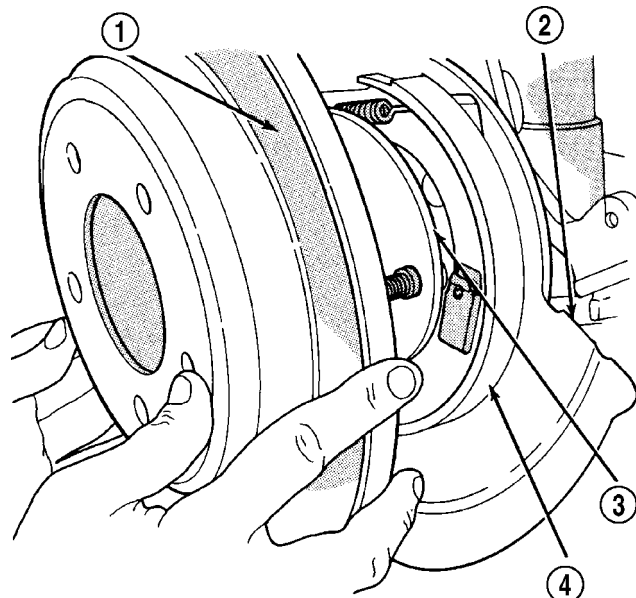
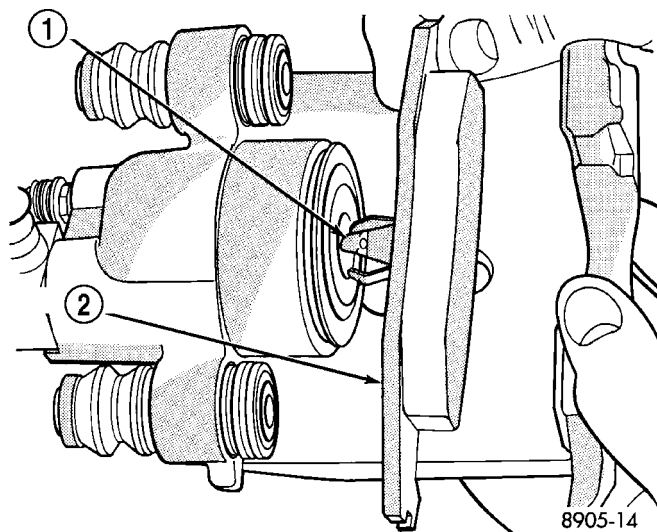

Fig. 21 Removing / Installing Rear Rotor
Fig. 23 Removing / Installing Inboard Brake Shoe
(6) Remove the rear rotor from the hub by pulling it straight off the wheel mounting studs (Fig. 21).
(8) Pull inboard brake shoe away from piston, until the retaining clip is free from the cavity in the piston (Fig. 23).
- (1) Completely retract caliper piston back into piston bore of caliper assembly.
- (2) Lubricate both adapter abutments with a liberal amount of Mopar® Multipurpose Lubricant, or equivalent.
- (3) Install the rear rotor on the hub, making sure it is squarely seated on the face of the hub (Fig. 21).
- (4) Remove the protective paper from the noise suppression gasket on both the inner and outer brake shoe assemblies (if equipped).
- (5) Install the new inboard brake shoe assembly into the caliper piston by firmly pressing into piston bore with thumbs. Be sure inboard brake shoe assembly is positioned squarely against the face of the caliper piston (Fig. 23).